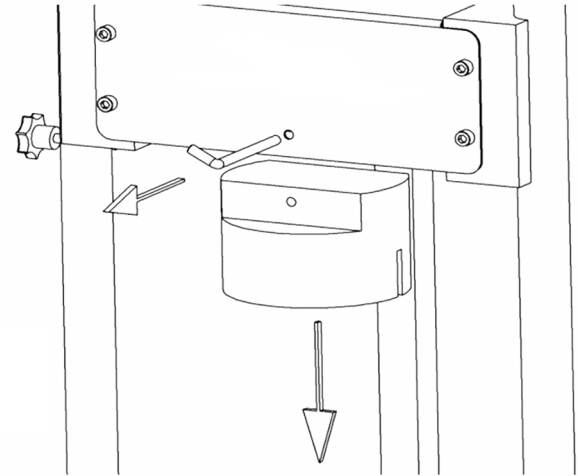

Figure 7
- Clean the outside of the machine and the push wedge (18) with wet cotton.
- In order to release the push wedge (18) it will suffice to pull the push wedge (18) down to the vertical axis by pulling the push wedge pin (16) to yourself. (Figure 7)